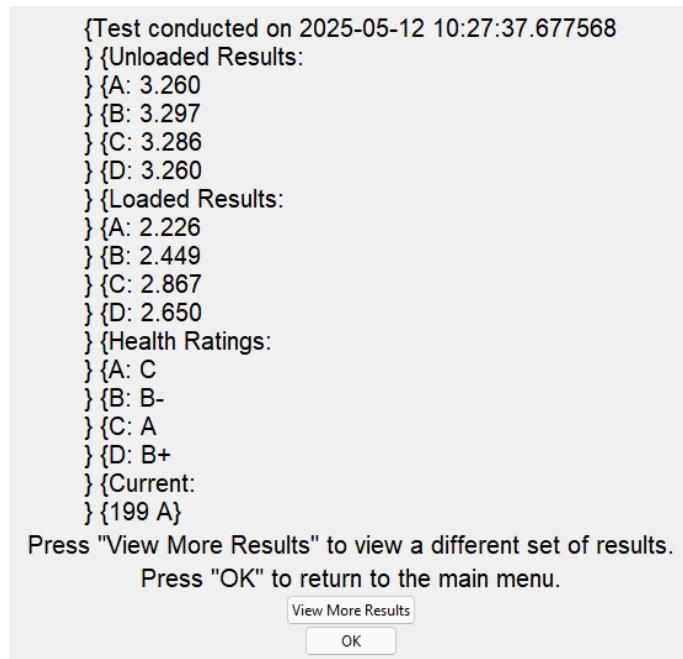

Figure 3.26 - Open File Results Screen (TS)
3a: If the file was successfully read, the screen in figure 3.26 will be displayed along with the results from the text file. Press “View More Results” to return to step 2b and view another set of results or “OK” to return to the main menu (TS).